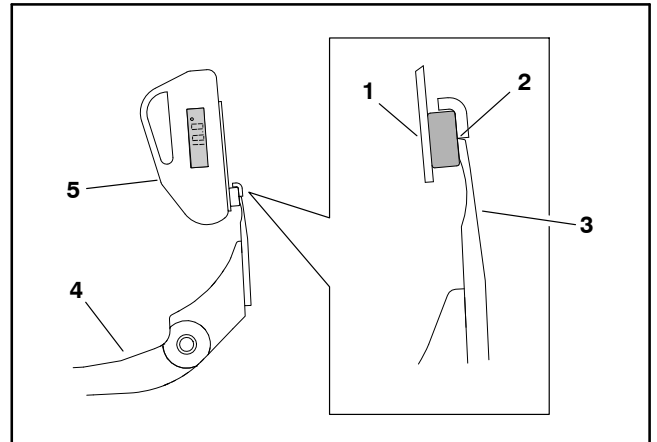

Figure 13
3. Remove the angle indicator and place the angle-indicator mount on the edge of the bedknife so the face of the magnet is flat against the top of the bedknife (Fig. 13).
4. Place the angle indicator on the mount with the digital display facing you as shown (Fig. 13). The angle displayed on the indicator is the current bedknife top angle.